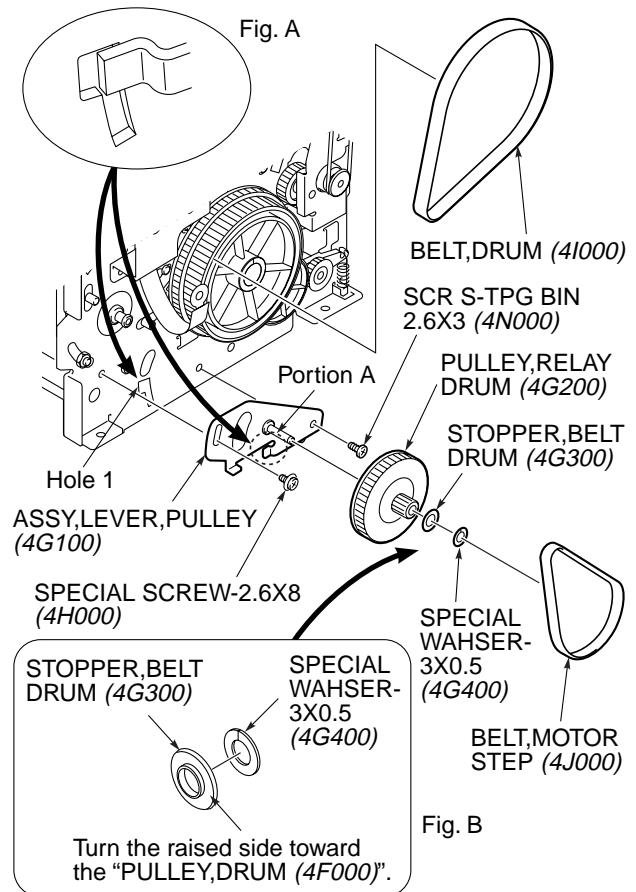

Fig. 3-7-2
- 1) Remove the "SPECIAL SCREW-2.6X8 (4H000)" and the "SCR S-TPG BIN 2.6X3 (4N000)". (Refer to Fig. 3-7-2.)
- 2) Remove the "BELT, MOTOR STEP (4J000)" and the "BELT, DRUM (4I000)". (Refer to Fig. 3-7-2.)
- 3) Remove the "ASSY, LEVER, PULLEY (4G100)". (Refer to Fig. 3-7-2.)
- 4) Remove the "SPECIAL WASHER-3X0.5 (4G400)" and the "STOPPER, BELT DRUM (4G300)". (Refer to Fig. 3-7-2.)
- 5) Remove the "PULLEY, RELAY DRUM (4G200)". (Refer to Fig. 3-7-2.)
Turn the raised side of the "STOPPER,BELT DRUM (4G300)" toward the "PULLEY, DRUM (4F000)" as shown in Fig. B of Fig. 3-7-2.
2. Insert portion A into hole 1 and initially install the "ASSY, LEVER, PULLEY (4G100)" using the "SCR S-TPG BIN 2.6X3 (4N000)" as shown in Fig. A of Fig. 3-7-2.